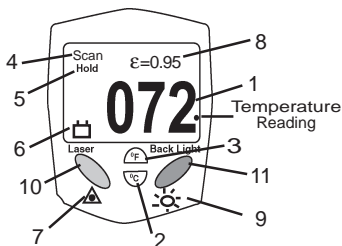

Figure 5
2. Press the Laser Key (10) while pressing the On/Off Key (E). Point the IR Sensor (B) of the Laser directly at the target and the temperature reading will appear on the LCD Display.
3. You may set the temperature to Fahrenheit (3) or Celsius (2) by pressing the reading switch on the Indicator. See Figure 5, page 7.
5. When you release the On/Off Key (E), the last reading will be held for 7 seconds. The HOLD (5) icon appears on the LCD Display. See Figure 5, page 7.
6. If your battery is low, the screen will indicate “low battery” (6). See Figure 5. At this time you will need to replace the batteries. Dispose of old batteries. Contact local Hazard Waste Disposal authorities for proper guidelines for disposal. See page 7.
11. Read the measured temperature. The Laser powers OFF automatically after about 7 seconds when the On/Off Key (12) is released.